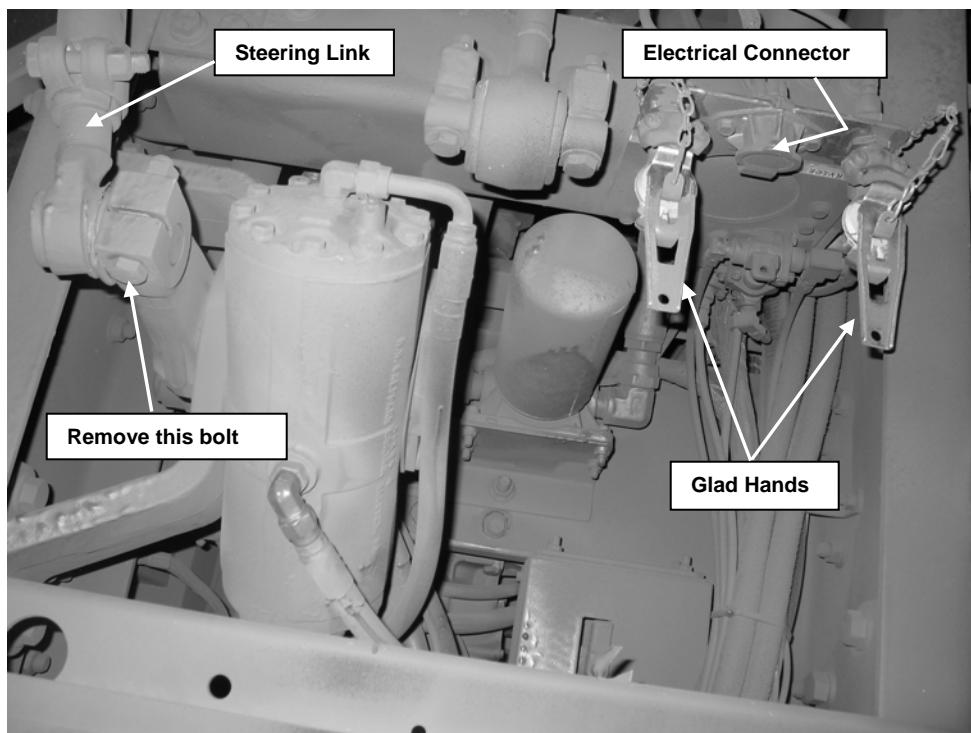

Figure 12. Removal of the Glad Hands and Steering Link.
- u) Remove the Electrical Connector and Glad Hands located under the front of the vehicle, as shown in Figure 12. This is done by removing the bolts and screws that attach these items to the adjacent vertical plate. Disconnect the airline hoses from the Glad hands.
- v) Disconnect the Steering Link form the Power Steering Arm. This is done by removing the bolt shown in Figure 12 and then pushing the connecting pin out of the hole in the Arm.